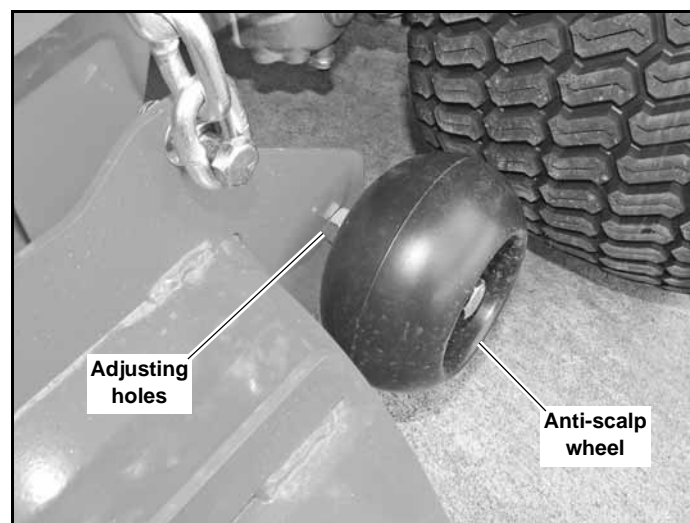

Fig. 3-13
19.05mm) below the deck. With the unit sitting on a flat level surface, the wheel position can be adjusted up or down as needed from 3/4" to 1-3/4" (19.05mm to 44.45mm) below the blade surface. Move the wheels up or down, in 1/2" (12.70mm) increments, using the different axle mount holes in the wheel mount bracket. Fig. 3-13.